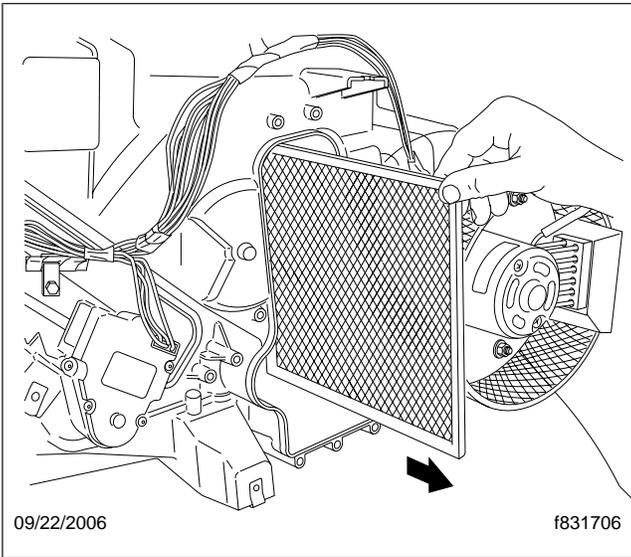

Fig. 1, HVAC Assembly Filter
8. Install the filter in the HVAC assembly. See **Fig. 1**.